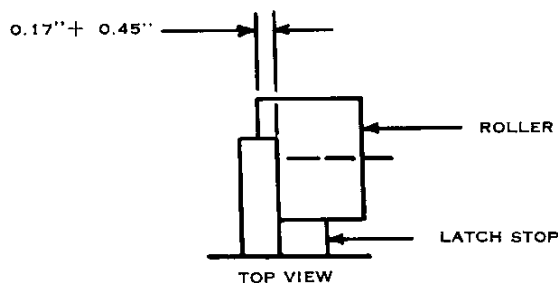

Fig. 53. Latch stop engagement
6. The engagement of the trip lever stop on the cam roller must be 0.17 to 0.45 inch as shown in Fig. 53.